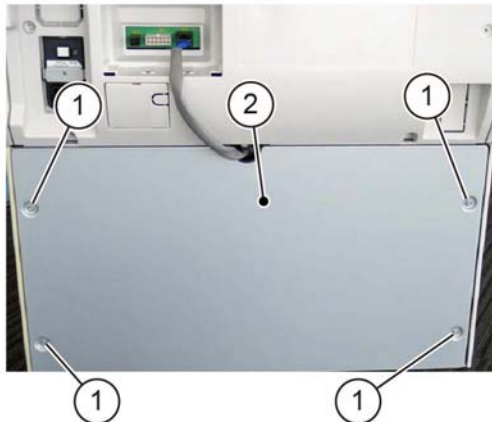

Figure 2 Rear cover removal
2. Remove the 1TM PWB, Figure 2:
- a. Disconnect five connectors (1).
- b. Remove four screws (2).
- c. Remove the 1TM PWB (3).